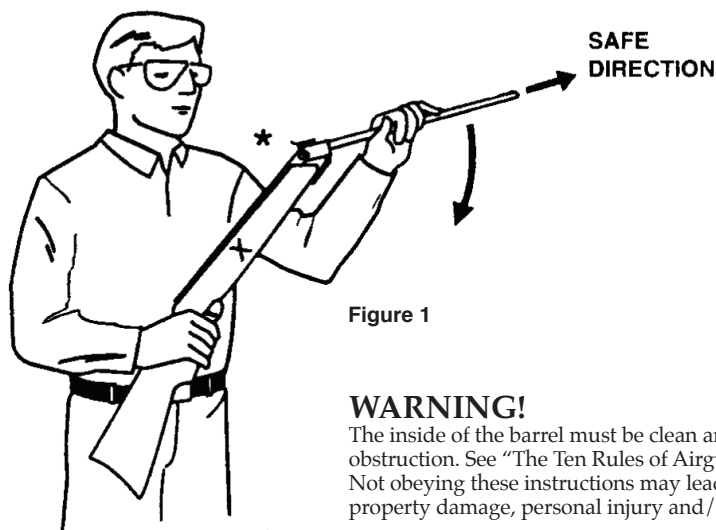

Figure 1
2. With one finger pull the safety towards the trigger into the "ON SAFE" position. See Figure 1.
6. Verify the safety is in the "ON SAFE" position. See Figure 1. If the safety is in the "OFF SAFE" position, conduct steps 1 through 7 of the "How to Cock your Airgun" section of this manual.
3. With one hand, hold the stock at the pistol grip or middle of forearm (marked x in the Figure 1).
4. Holding the airgun firmly with one hand, tap barrel behind the front sight in order to break open the barrel, but do not cock the airgun. See Figure 1.
8. Break open the action. See Figure 1.